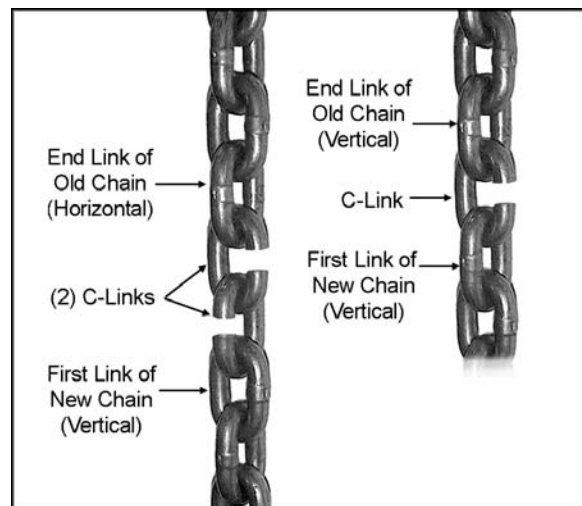

Figure 17
4. Using a C-link(s), connect the new chain to the old chain. If the end link of the old chain is horizontal, use two C-links. If the end link of the old chain is vertical, use one C-link. See Figure 17. Using the correct number of C-links will properly orient the chain, and ensure that the first link on the load side end is a vertical link.